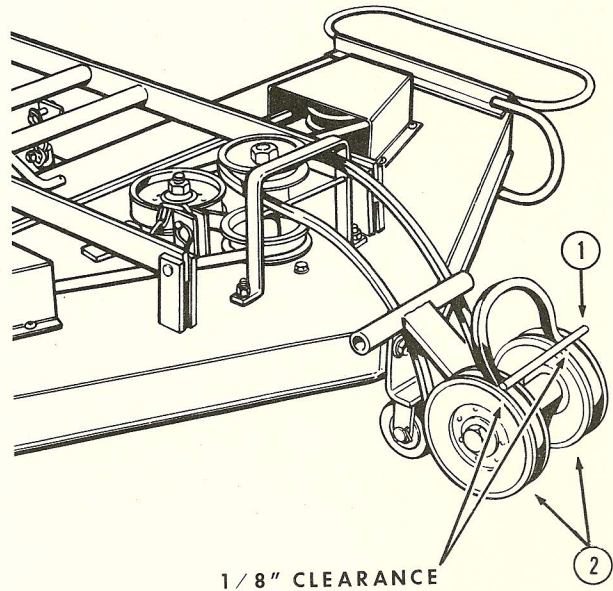

Figure 8
5. Adjust the clutch idler belt guide (1) leaving $\frac{1}{8}$ \" between the clutch idler pulleys (2) and the belt guide (1), Figure 8.